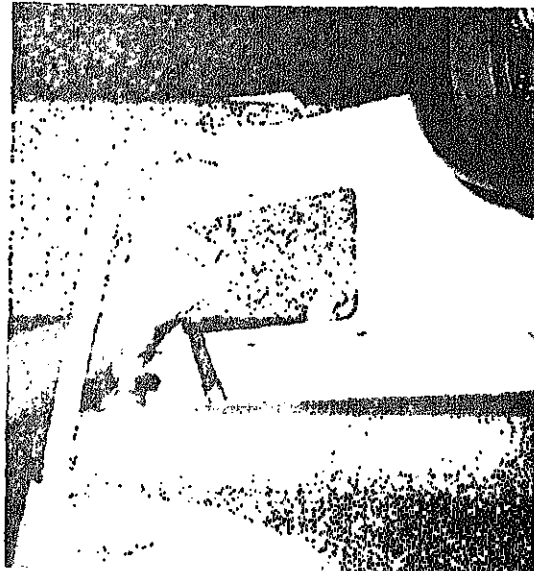

FIGURE 9-7.
e. Disconnect the inlet hose from the pump and the return hose from the tank. Plug or cap all hoses and fittings. Remove the control unit and hoses from the gooseneck opening (see figure 9-7).